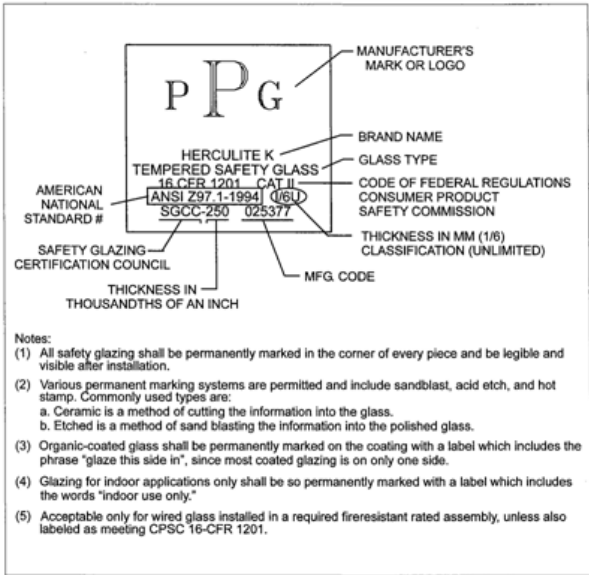

Figure 14-15
3. [Figure 14-15, Tempered Safety Glass stamp, 2003 IRC Performing Residential Building Inspections, this handout pg. 2 of 5.](#)